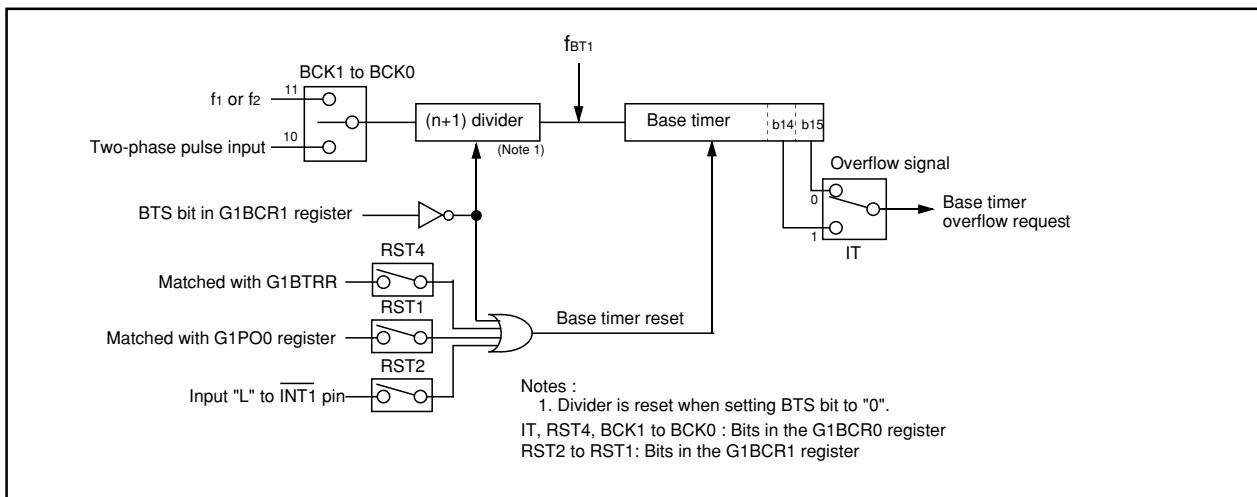

Figure 13.1.1. Base Timer Block Diagram
Interrupt request	The base timer interrupt request is asserted: (1) At bit 14 or bit 15 is overflow of the base timer (2) Base timer value matches the base timer reset register, and the base timer reset is enable (See Figure 13.1.1.)